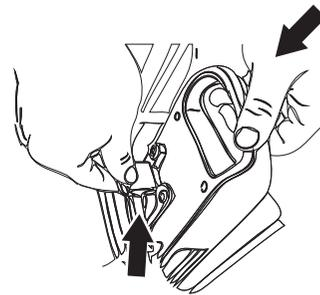

Fig.13
**8.4.5 Battery Removal(Fig.13)**